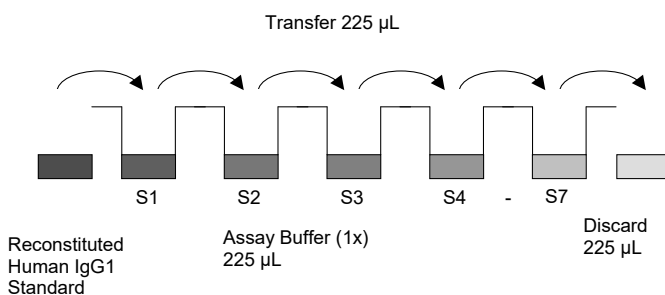

Fig. 5 Dilute standards - tubes
5. Repeat serial dilutions 5 more times thus creating the points of the standard curve (see Figure 5).